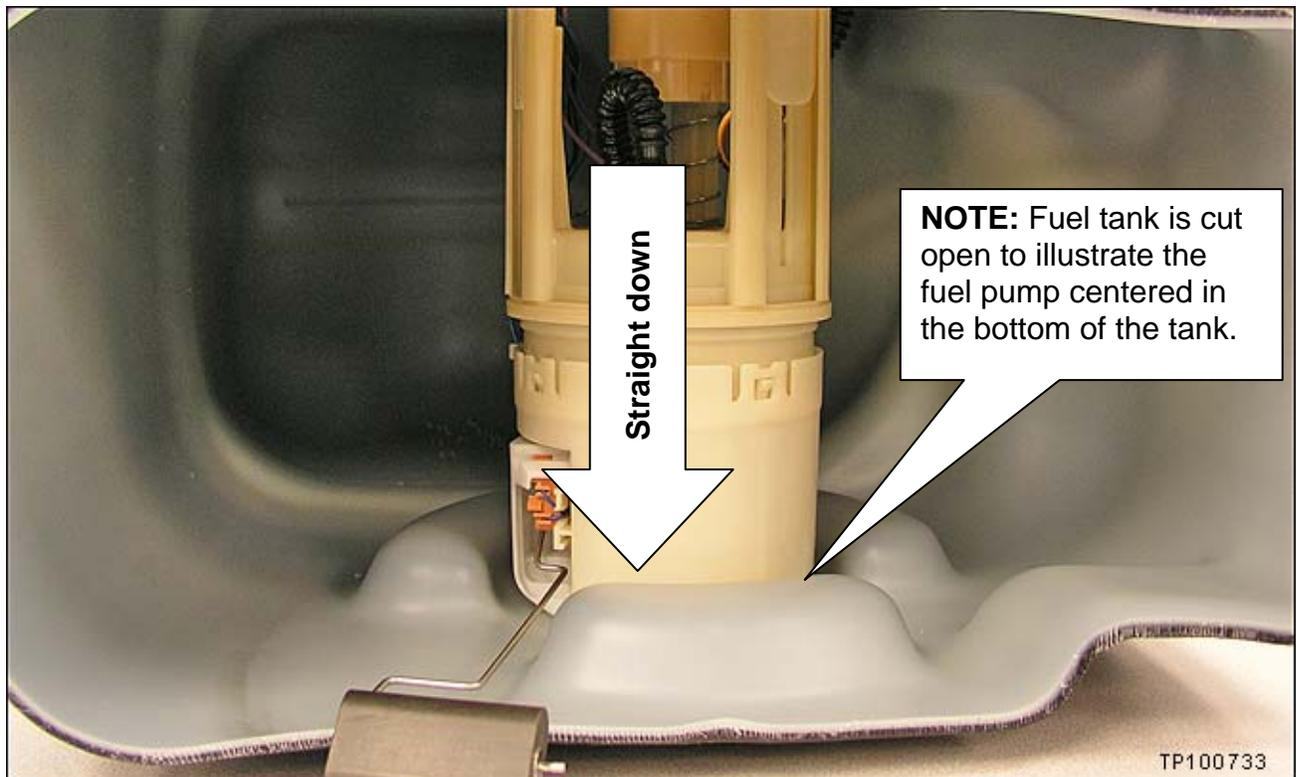

Figure 6
- **Make sure** the fuel pump assembly is installed **straight down** into the tank as shown in Figure 6.